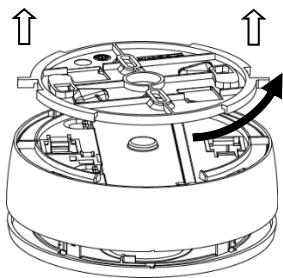

Figure 6
2. Remove the mounting bracket from the detector by rotating the mounting bracket counterclockwise and then lifting it (*see Figure 6*).